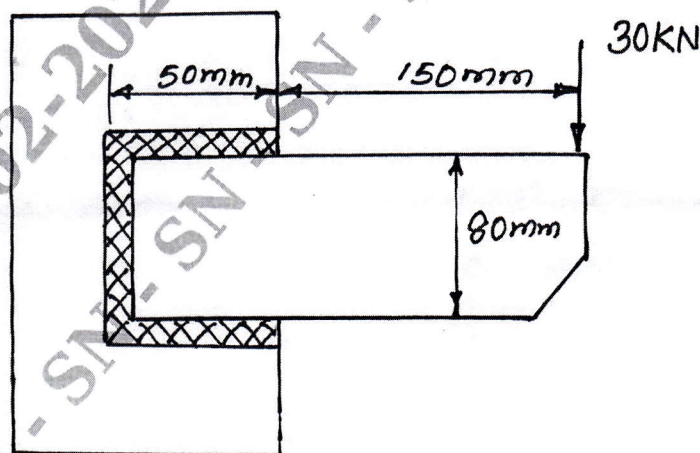

Fig. Q7 (b)
- b. Determine the size of weld required for an eccentricity loaded weld as shown in Fig.Q7 (b). The allowable stress in the weld is 75 MPa. (14 Marks)